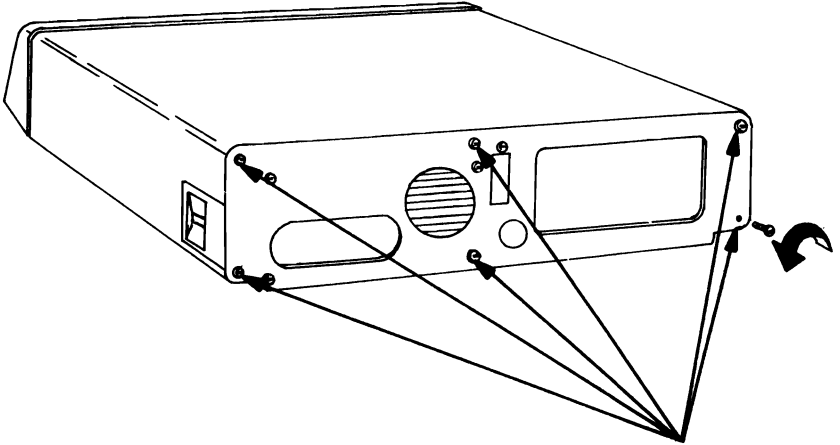

Figure 1A
1. Position your computer to allow access to the rear. Use a flat-blade screwdriver to remove the six cover mounting screws by turning them counterclockwise as shown in Figure 1A. Save the screws for replacing the cover.